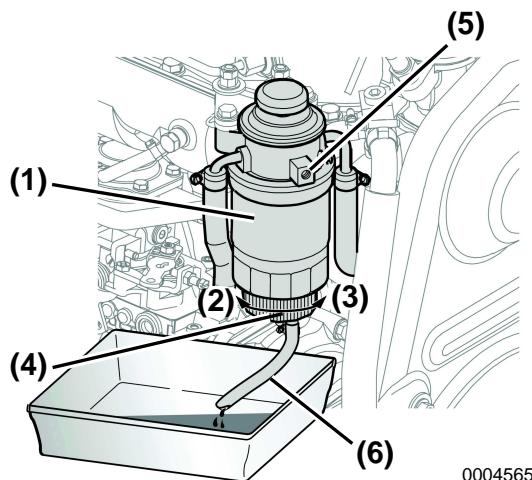

Figure 11
3. Attach a tube (Figure 11, (6)) to the drain plug (Figure 11, (4)).
4. Loosen the drain plug (Figure 11, (4)) at the bottom of the fuel filter / water separator counterclockwise and drain off any water or sediment.